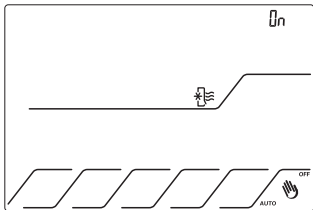

Fig.15
4.2.4 Press OK to confirm. The display shows ON and  Fig.15 . If it's not confirmed after 15 seconds it returns to Stand-by.